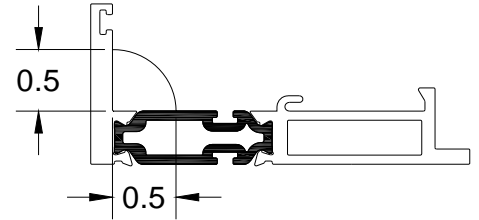

Figure 9:
- Apply a continuous bead of sealant along the back and side legs between the sill and sill pan (Figure 9, page 7) and insert the frame into the opening. Cross-measure and adjust as necessary to achieve a plumb square and level condition, as well as an even reveal around the framed opening. Shim with non-porous, non-absorbent, inorganic shims where needed. Seal all fastener heads with compatible sealant. (Only drill holes through Sill as required for design load)
- Apply a 1/2"x1/2"x4" bead of compatible sealant from each corner on inner flange of panel (Figure 9 & 10).